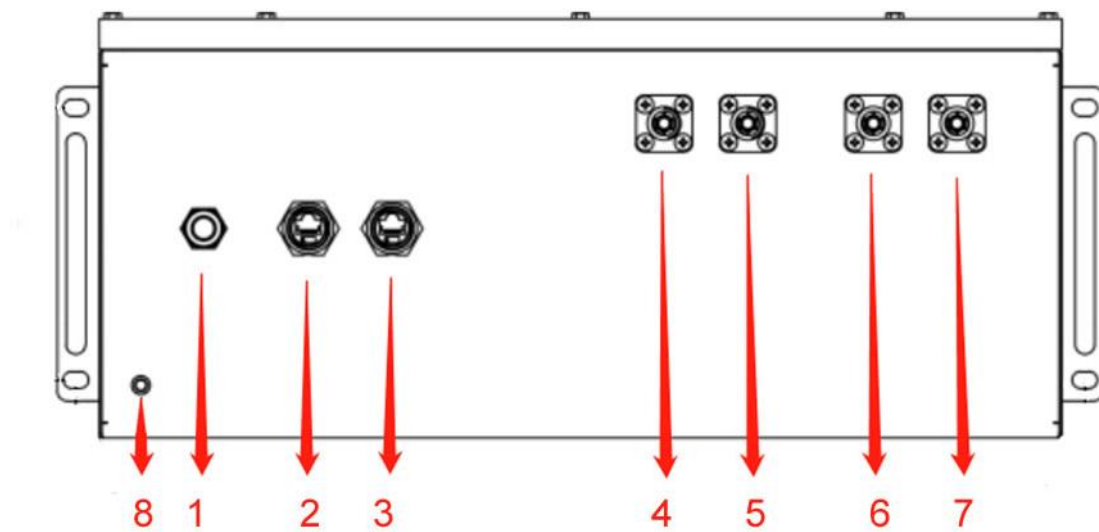

Figure 3 Panel equipment specifications and options
- As shown in Figure 3 above, attach the rear of the cabinet to the mounting bracket on the wall.